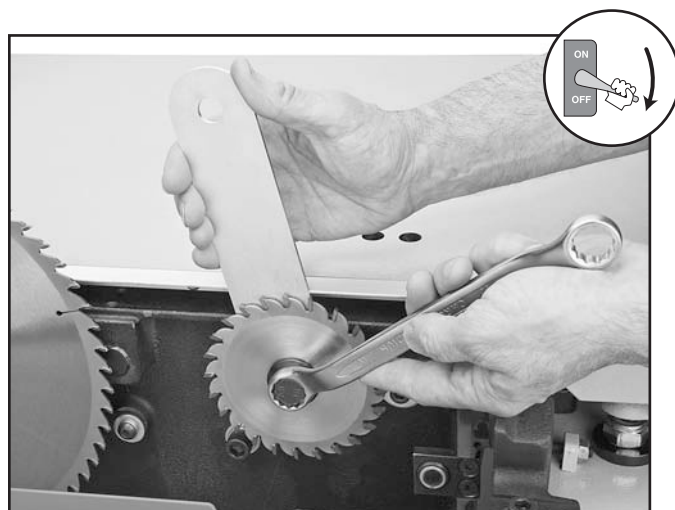

Figure 75. Removing the scoring blade.
5. Place the arbor wrench on the flange behind the scoring blade, then turn the arbor nut counterclockwise until you can remove it and the flange (see **Figure 75**).